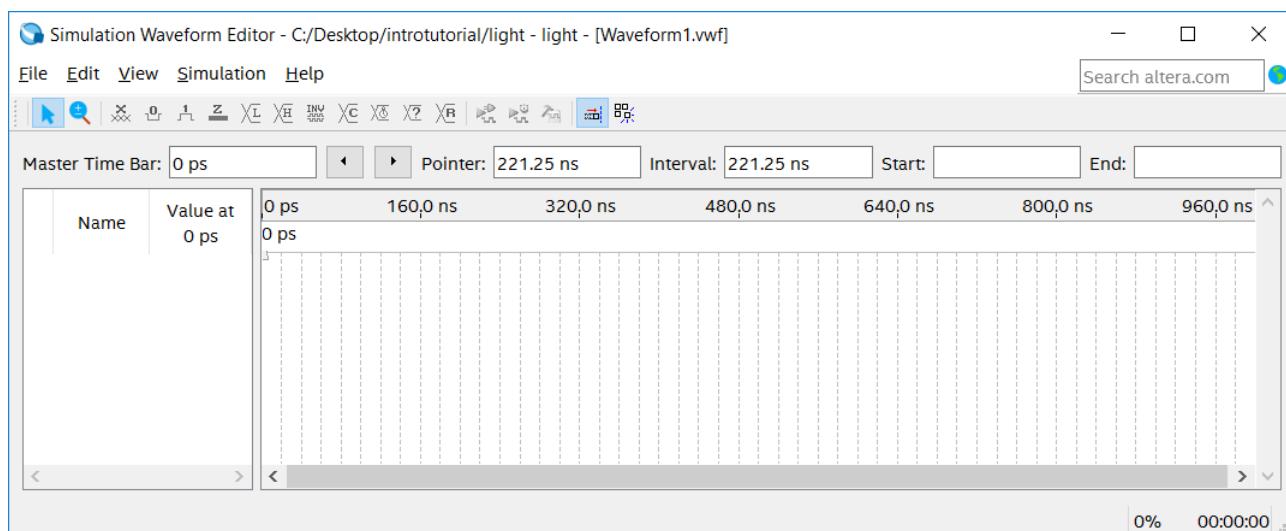
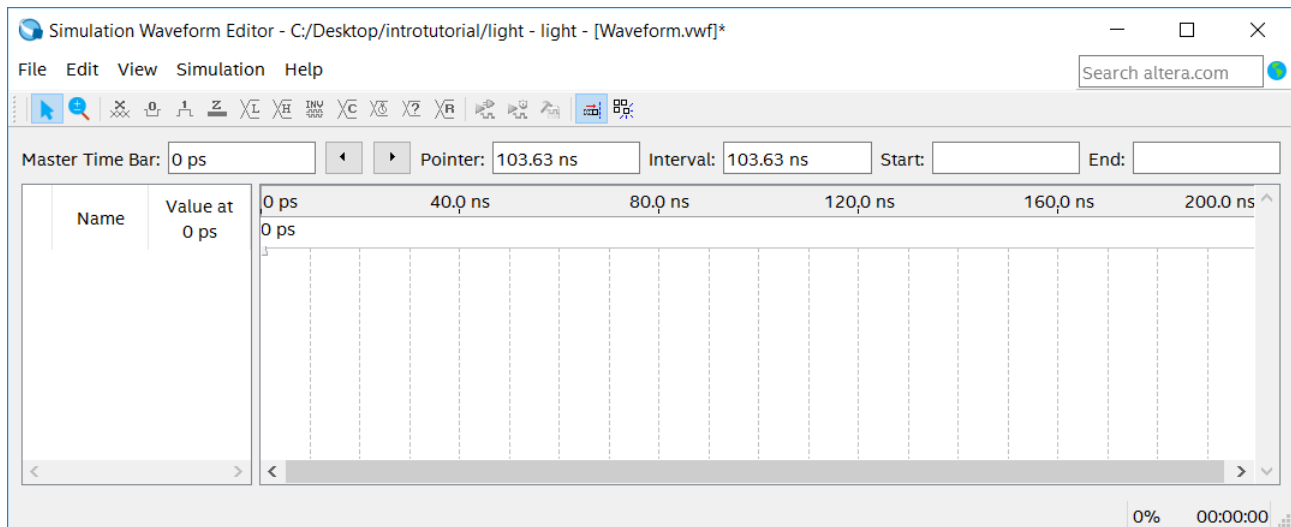

Figure 31. The Waveform Editor window.
Figure 32. The augmented Waveform Editor window.
2. The Simulation Waveform Editor window is depicted in Figure 31. Save the file under the name *light.vwf*; note that this changes the name in the displayed window. Set the desired simulation to run from 0 to 200 ns by selecting Edit > Set End Time and entering 200 ns in the dialog box that pops up. Selecting View > Fit in Window displays the entire simulation range of 0 to 200 ns in the window, as shown in Figure 32. You may wish to resize the window to its maximum size.